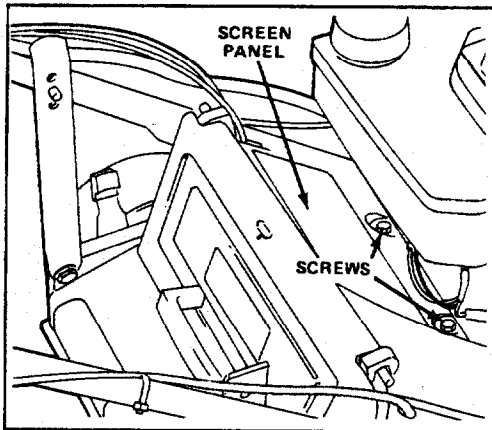

Figure 27
2. Remove (2) screws securing screen panel to top of mower housing (Fig. 27). Remove panel.